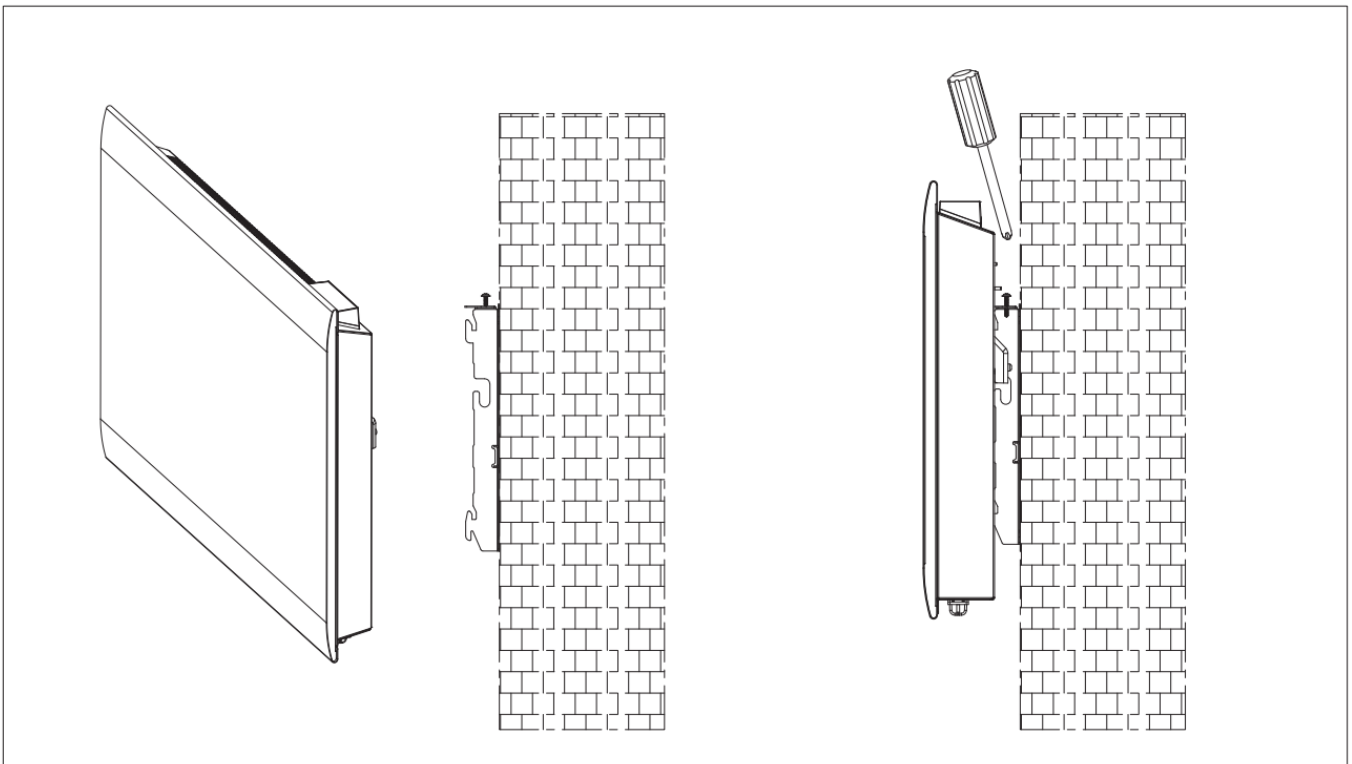

Fig 3
3. Place the heater against the bracket. Fix the heater on the 2 downwards hooks. Pull the heater upwards whilst keeping it in the 2 lower hooks. Fix the heater on the 2 upwards hooks. Pull the heater down. Slide the 2 metal pieces on top into the hole, and fasten the screws to lock the wall mount bracket (Fig 3).